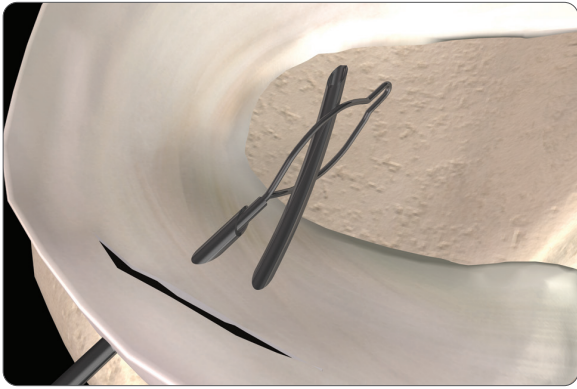

Figure 7
1. Remove the stylet from the first needle. Insert the loop through the needle until the loop opens in the joint. Rotate the loop to accept the second needle (**Figure 7**).